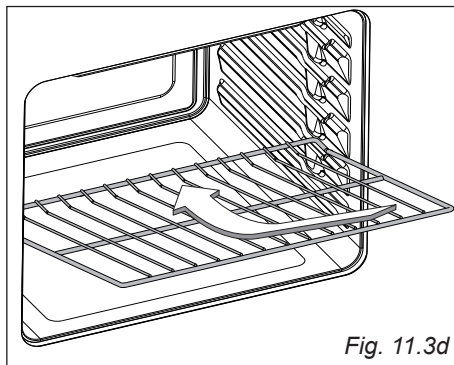

Fig. 11.3d
- The oven shelf is provided with a security block to prevent accidental extraction. It must be inserted operating as per figure 11.3d.